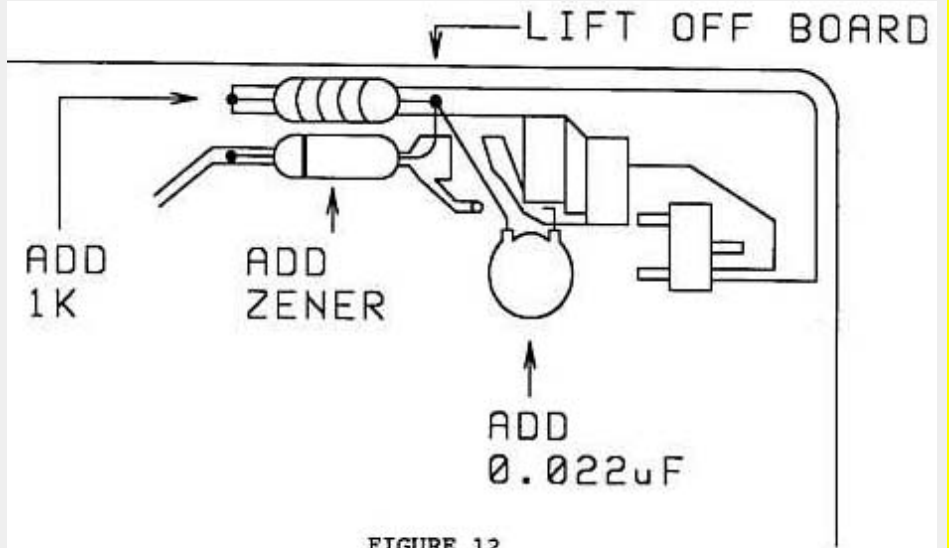

FIGURE 12
26. Place the 3.0V zener diode on the board. Size and cut the diode's cathode lead. Solder the lead to the board. Figure 12.
27. Place the 1K ohm resistor on the board. The body of the resistor must be parallel to the diode. Size and cut the resistor's left hand lead. Solder the lead to the board. Figure 12.
28. Bend the diode's anode lead and solder it to the resistor's right hand lead. Do not allow the leads to touch the board. Trim the leads after soldering. Figure 12.
29. Prepare the 0.22 μF capacitor for installation. Place the component on the board to size and cut the leads. Figure 12.
30. Solder the left hand lead to the junction of the zener diode and 1 K ohm resistor. Do not let the connection touch the board. Figure 12.
31. Solder the right hand lead to the board as shown. Figure 12.